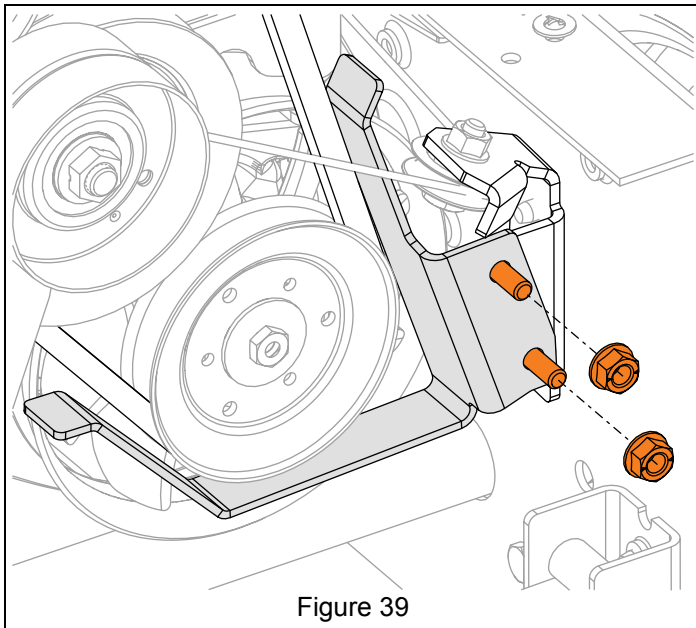

Figure 39
6. Remove hardware retaining belt finger and remove belt finger. See Figure 39.